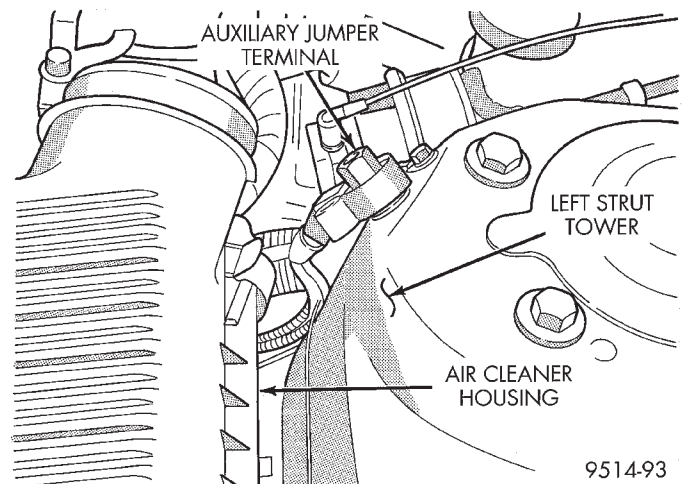

Fig. 20 Auxiliary Jumper Terminal
- (1) Perform fuel system pressure release procedure **before attempting any repairs.**
- (2) Disconnect negative cable from auxiliary jumper terminal (Fig. 20).
- (3) Remove Air Inlet Resonator. Refer to Group 14, Fuel System for procedure.
- (4) Perform fuel system pressure relief procedure and disconnect the fuel supply line quick connect at the fuel rail assembly. Refer to Group 14, Fuel System for procedure.